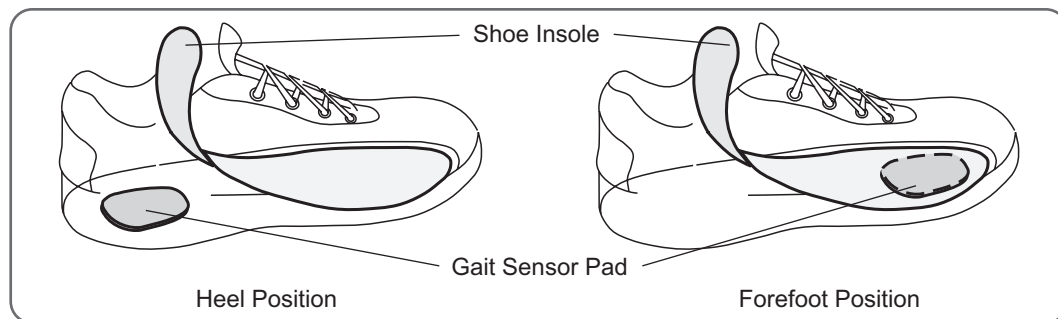

Figure 6-7: Placement of the Foot Sensor Pad
2. Attach a Foot Sensor Pad under the insole, in the position that was defined by your clinician. See Figure 6-7.